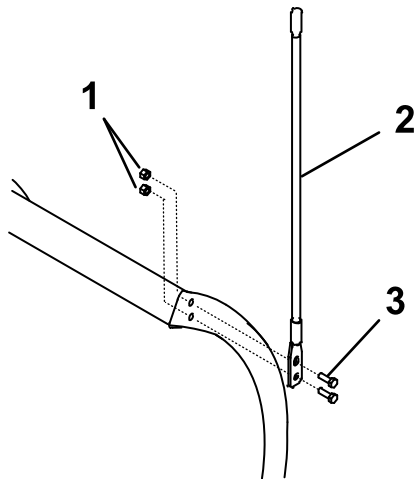

Figure 17
1. Attach the blade guides to the plow blade using 4 bolts (5/16 x 1 inch) and 4 self-locking nuts (Figure 17).